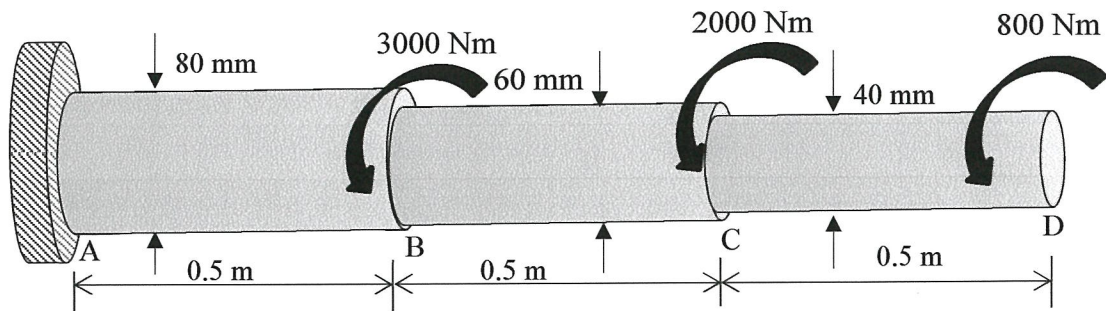

Figure Q3
- Q3** A fixed-end steel shaft ABCD is subjected to torques as shown in **Figure Q3**. The torques have magnitude of 3000 Nm , 2000 Nm and 800 Nm . The length of each segment is 0.5 m and the diameters of the segments are 80 mm , 60 mm and 40 mm . The shaft shear modulus of elasticity, G is 80 GPa .